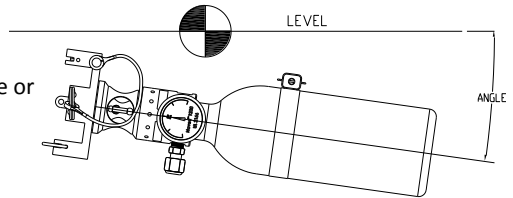

Figure 2
Models NMG 25 - 200 and NMD 225 – NMD 825 may be installed Vertical or horizontal with the following angular / off-set limitations. Vertical installation is recommended for optimum performance. Off-set is defined as the distance below level line from end of the bracket. The discharge orifice spray pattern must be oriented away from the wall and towards the room. See Figure 2.
WARNING: WHEN INSTALLING CYLINDER IN HORIZONTAL POSITION, THE ACTUATOR (TOP OF CYLINDER) MUST NEVER BE LOWER THAN THE BOTTOM OF THE CYLINDER OR PROPER DISCHARGE OF AGENT WILL NOT OCCUR (SEE FIGURE 2 ABOVE).
Step 5 Locate bracket in desired position (Vertical-sensor Valve / Detector Head Up, or Horizontal, Figure 2). Ensure bulkhead or mounting surface is solid enough to hold the weight of the unit. Fasteners are not included. Use medium strength (Grade 5, Property Class 8.8) or better grade material. Use minimum 5/16" (M8) diameter [recommend 3/8" (M10) diameter] fasteners for all but 130-249 bracket assemblies. 130-249 minimum hardware size is 1/4" (M6) diameter. All mounting holes must be utilized. See table below for qty and hole size in respective bracket. Using the bracket as a template, mark and drill holes in bulkhead and install bracket ensuring that all fasteners are thoroughly tight.
- c. Following the diagram in Figure 2, install the jam nut and lock washer on the cable end – outer. Screw the jam nut to the end of the threads. Insert the cable end through the panel and faceplate hole. Pull the cable end – inner (threaded shaft) out to its fullest travel. Install ferrule by screwing onto the cable end – outer until it bottoms out. Use pliers on the back side – holding the cable end – outer while turning the ferrule. Use pliers with rubber tips or other non-scratching grip. Do not over tighten.